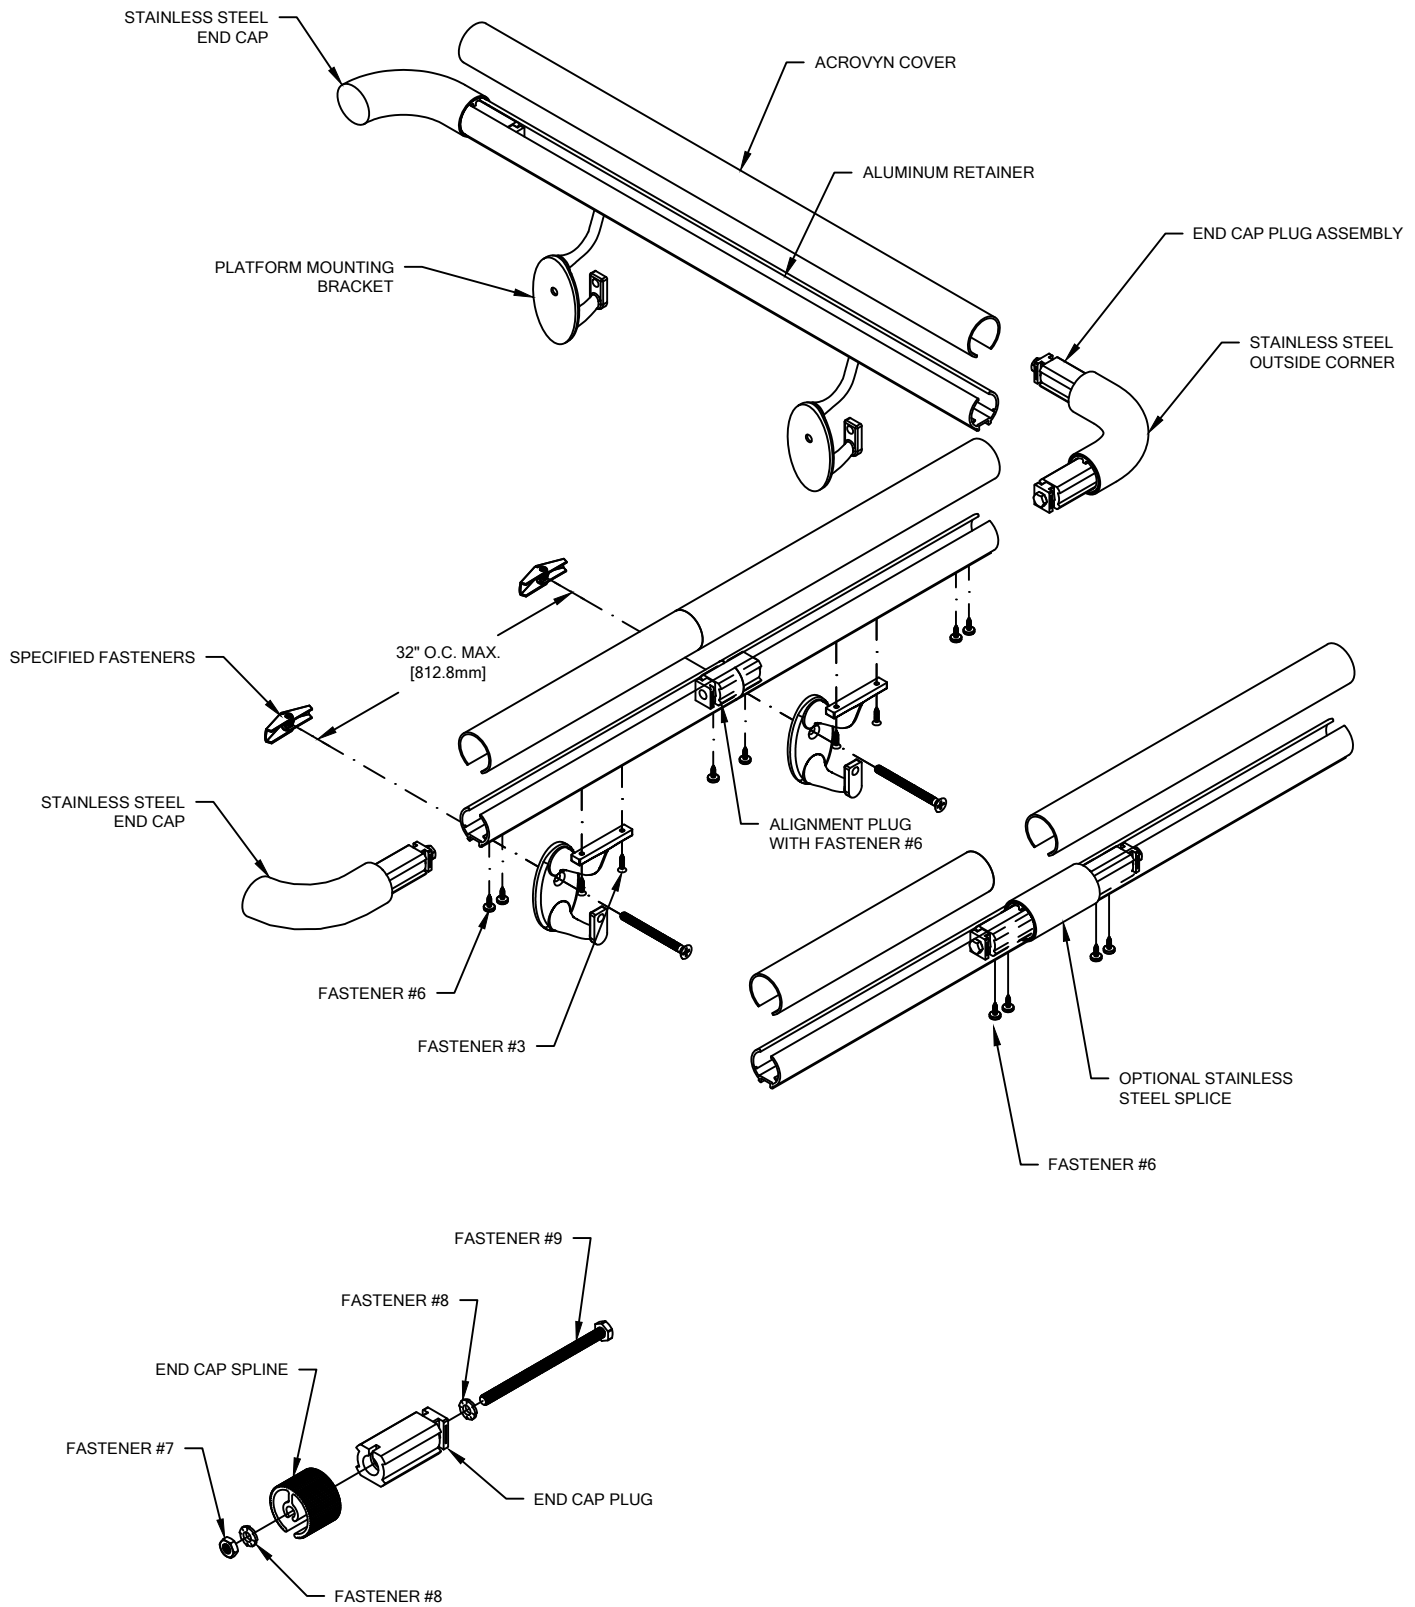

FIGURE 1.
- LOOSELY ASSEMBLE THE END CAP PLUG AS SEEN IN FIGURE 1.